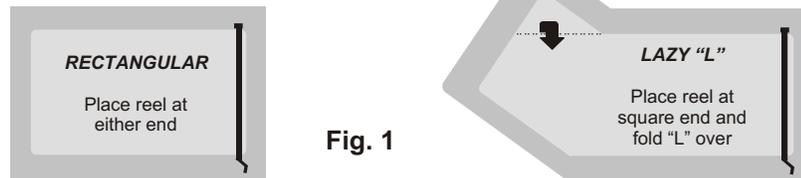

Fig. 1
A. The end of the pool is the **ONLY** location for the Low Profile (see Fig. 1).